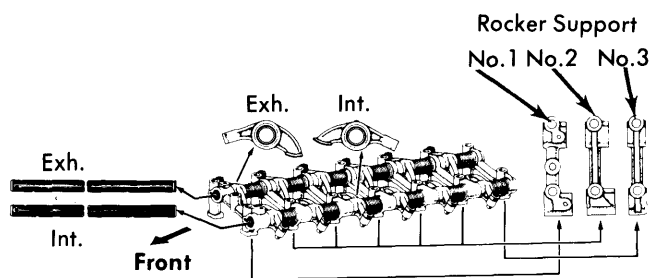
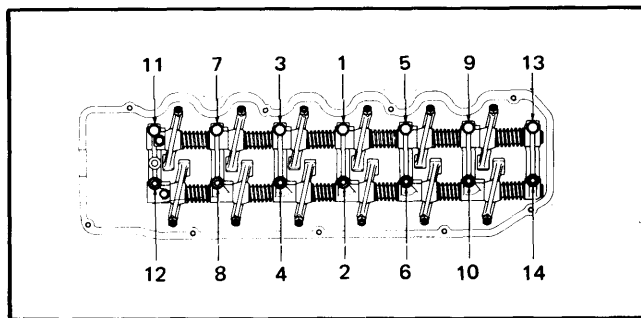

Fig. 5 Reassembly Locations for Rocker Arms and Supports
Fig. 6 Rocker Arm Tightening Sequence
2) Remove attaching bolts and oil union between number one camshaft bearing cap and number one rocker arm assembly support. Loosen rocker shaft attaching bolts in sequence shown in Fig. 6
3) Assemble rocker arm assembly in reverse of removal and install on cylinder head see Fig. 5. Tighten bolts gradually in sequence shown in Fig. 6 taking three or four steps. Install oil union between number one rocker shaft support and number one camshaft bearing cap.